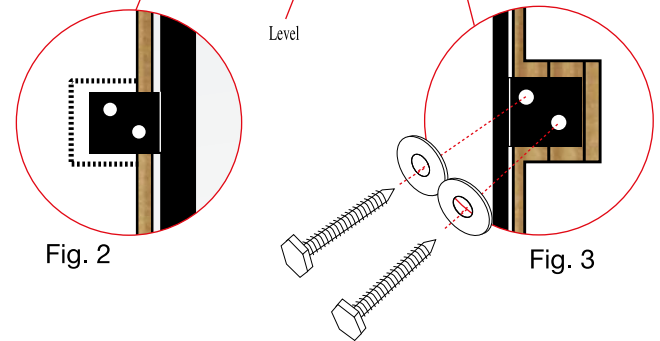

Fig. 3
5. Cut & remove drywall around flanges so flanges sit directly on the wall studs. (See Fig. 3)